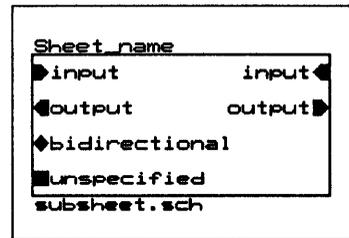

Figure 2-4. Net symbol types.
Draft displays the prompt "Net Name?" Enter the desired net name. A menu displays listing the types of net symbols: **Input**, **Output**, **Bidirectional**, and **Unspecified**. Figure 2-4 shows the types of net symbols. Select the appropriate type.
- ◆ Select **Type** to change the type of the net. A menu displays listing the types of net symbols: **Input**, **Output**, **Bidirectional**, and **Unspecified**. Figure 2-4 shows each of these types of net symbols. Select the appropriate type.